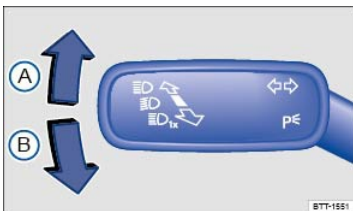

Fig. 92 To the left of the steering wheel: Turn signal and high beam lever.
- Move the turn signal and high beam lever ⇒ Fig. 92 to position: